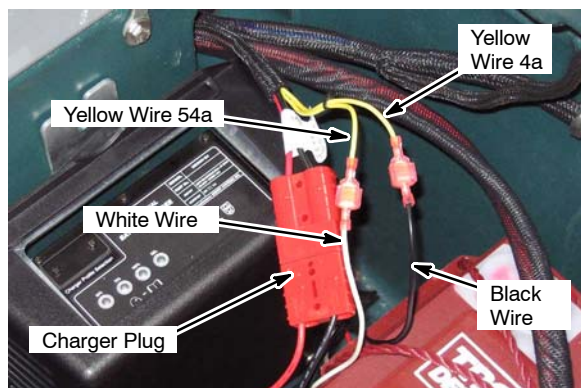

Fig. 11
12. Connect the kit wire harness to the charger as shown (Figure 11).